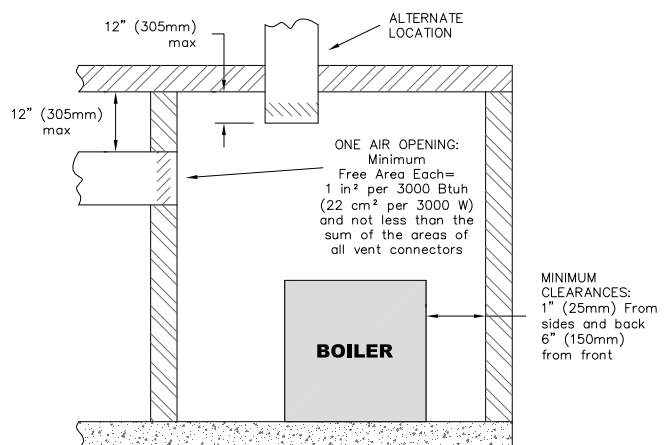

Figure 1.6: Air Openings - All Air from Outdoors through One Opening
b. **One Permanent Opening Method:** Provide one permanent opening beginning within 12 inches (305 mm) of the top of the space. The opening shall communicate directly with the outdoors, communicate through a vertical or horizontal duct, or communicate with a space that freely communicates with the outdoors. The openings shall have a minimum free area of 1 in2 per 3000 Btu/hr of total rated input for all appliances in the space and not less than the sum of the cross-sectional areas of all vent connectors in the space. The gas fired equipment shall have clearances of at least 1 inch (25 mm) from the sides and back and 6 inches (150 mm) from the front of the appliance. See Figure 1.6 for this arrangement.